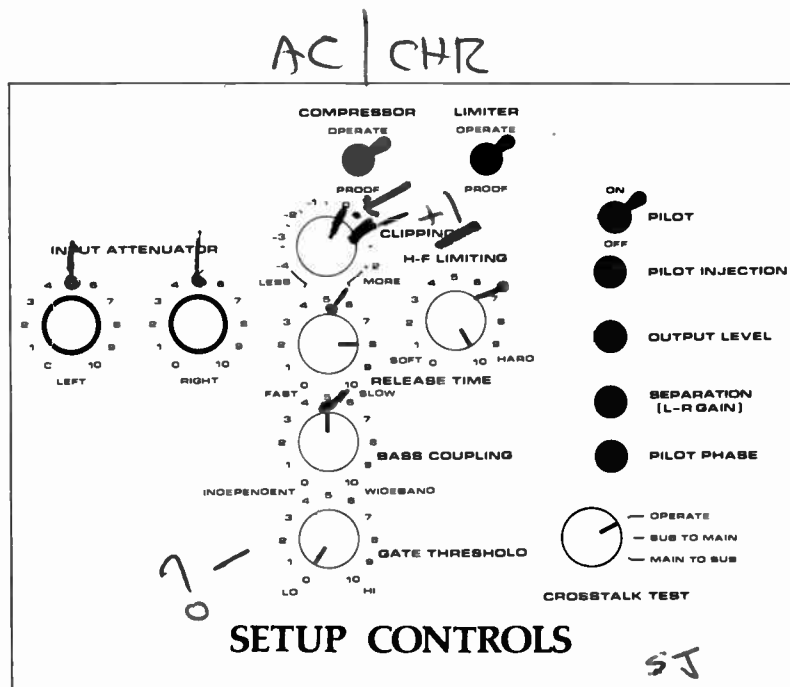

Fig. 4-5: Setup Controls
a) Adjust OPTIMOD-FM controls according to Fig. 4-5. DO NOT adjust the OUTPUT ATTEN and INPUT ATTEN controls at this time. If you have a dual-chassis system, DO NOT READJUST THE TRANSMITTER CHASSIS INPUT ATTEN CONTROLS UNDER ANY CIRCUMSTANCES!
ALWAYS START WITH OUR SUGGESTED INITIAL SETTINGS (SEE FIG. 4-5) AND WORK FROM THERE.